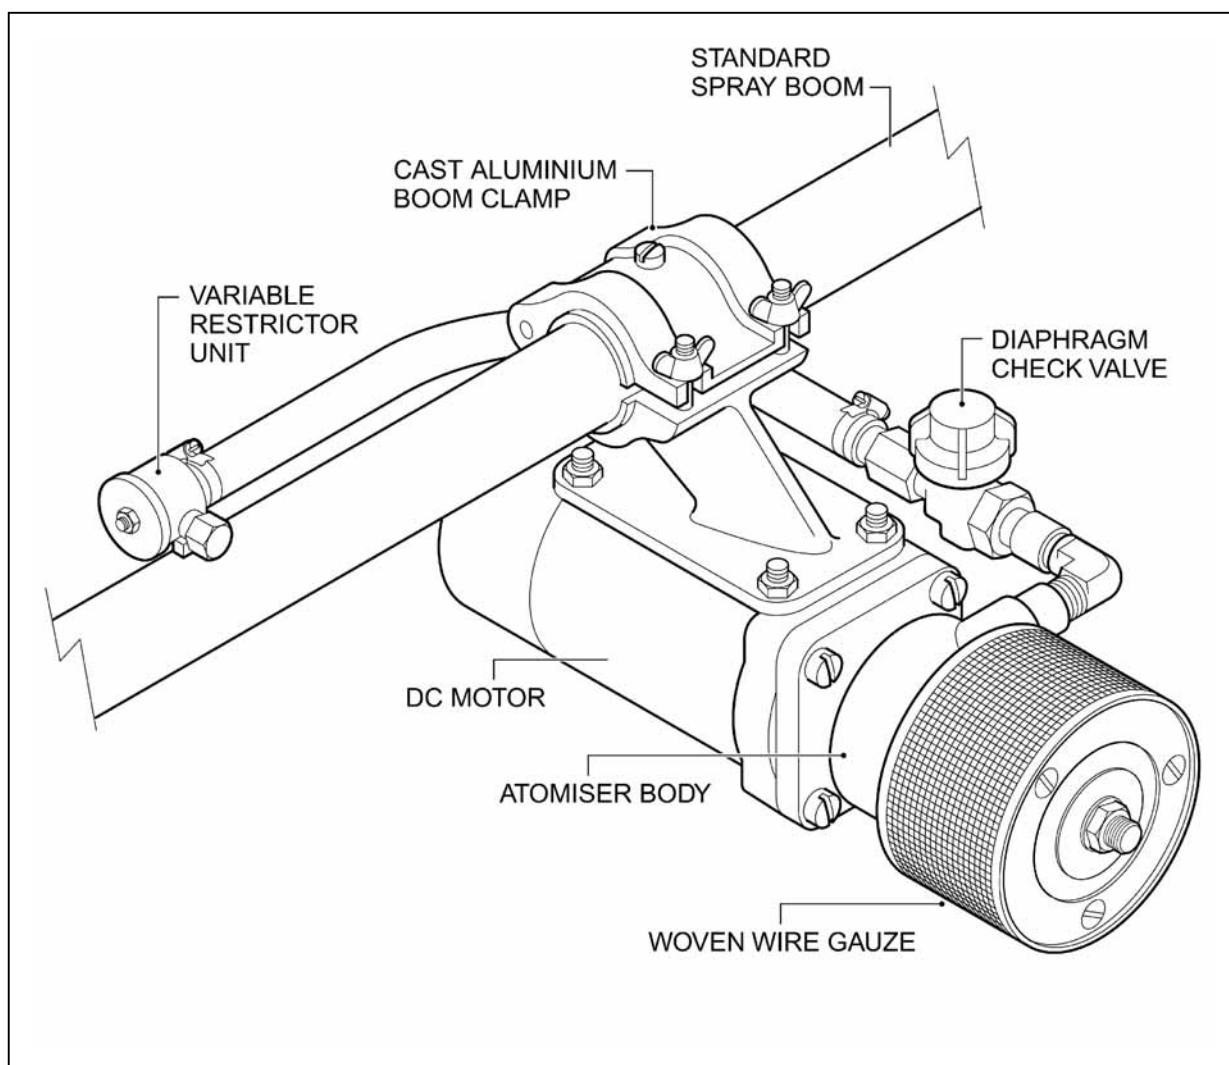

Fig. 1 – Typical Installation of Direct Drive Electric Atomiser
These instructions describe a typical installation as shown in Fig. 1 and are provided as an example only. Details of the installation may vary with boom configuration.
2. With the cap nut still in position on the stem of the outlet adaptor (6), screw the adaptor into the feed elbow of the atomiser. Seal the thread with the PTFE tape provided.
3. Screw the cap nut back onto the diaphragm check valve body, ensuring that the filter (4) is in position inside the valve body and that the valve cap faces upwards to minimise chemical spillage when it is opened.
4. Locate a suitable nozzle hole adjacent to each atomiser for the mounting of the VRU (see Fig. 1). The positions should be chosen so that the hoses between the VRUs and the atomisers will not kink or chafe on the clamps. The VRUs feeding the outboard atomisers should be fitted as close as possible to the ends of the booms to prevent air pockets forming in the outboard ends of the booms.
6. Screw the inlet fitting of each VRU into the nozzle hole identified in step (4) above, ensuring that the outlet hose fitting faces towards the atomiser. Seal the thread with PTFE tape. Some streamline section spray booms have nozzle holes recessed into the trailing edge. This may cause the VRU body to touch the boom before the thread tightens. Should this be the case, it will be necessary to fit stand-off adaptors EX2313 between the boom and VRU inlets.
7. Connect each VRU outlet to the corresponding check valve inlet with the ½" flexible hose (CBP991) and hose clips (CBP11) provided. See Fig. 1 for details. If necessary, secure the hose to the boom or clamp with plastic cable ties to prevent it from moving or chaffing. Do not over-tighten the cable ties to prevent crushing the hose.